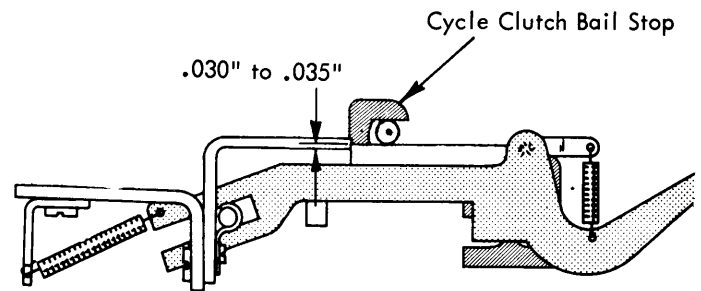

FIGURE 9. Cycle Clutch Latch Pawl Bite Adjustment
9. Cycle Clutch Latch Pawl Bite - Adjust the cycle clutch bail upper stop to provide .030" to .035" bite between the latch pawl and its keeper (1/2 the thickness of the keeper) (Fig. 9).